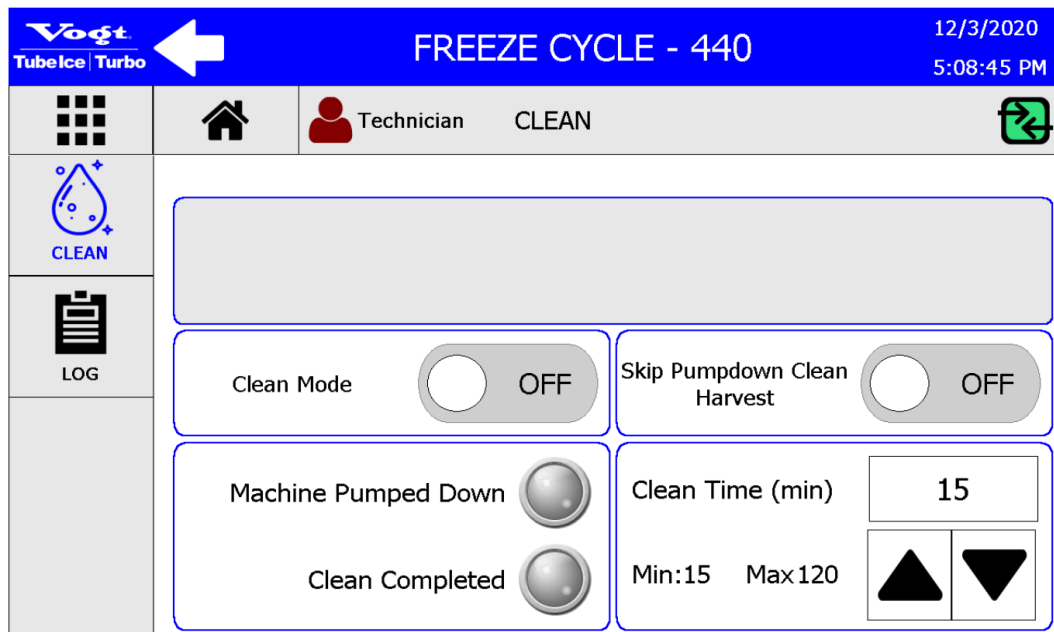

Figure 54: CLEAN Screen
2. Press the grid touch screen button  to return to the **MENU** screen. press the **CLEAN** touch screen button to access the cleaning submenu. See Figure 54.